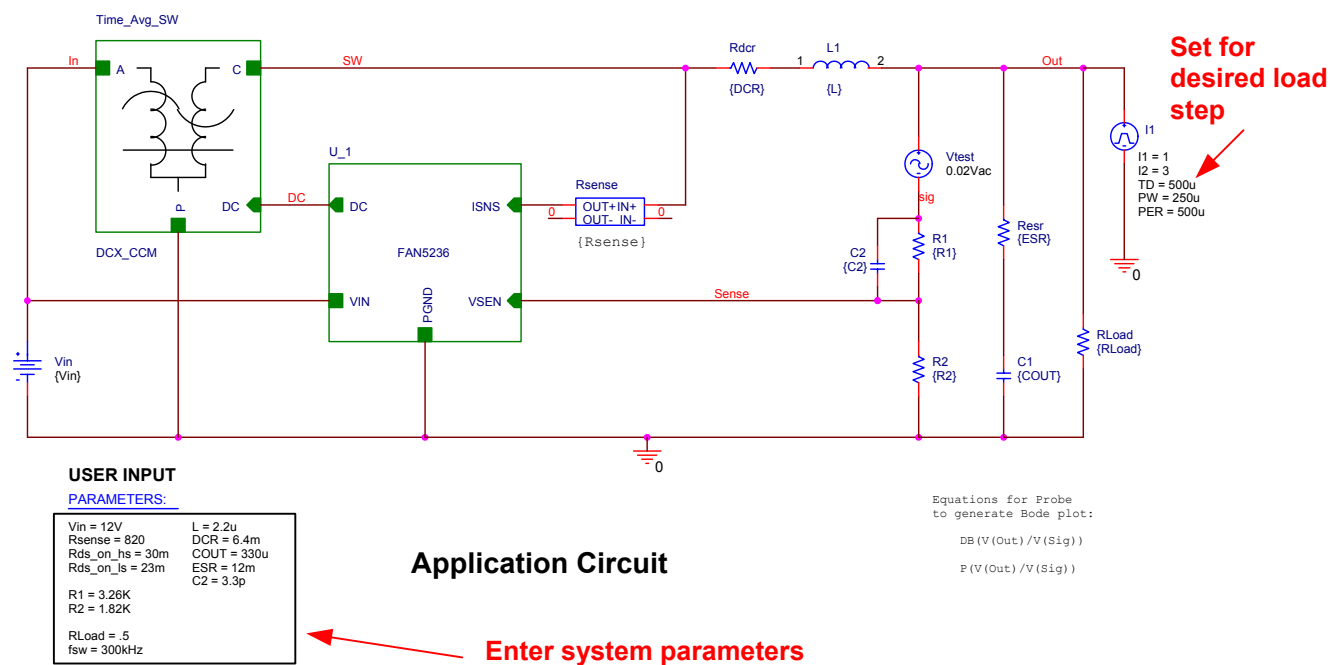

Figure 2. PSPICE schematic
5. Input the values you have selected into the PSPICE model (see Figure 2). Generate a Bode plot by simulating with the “application circuit-ac sweep” simulation profile. Make sure to simulate over the corners of VIN and IOUT for your application.